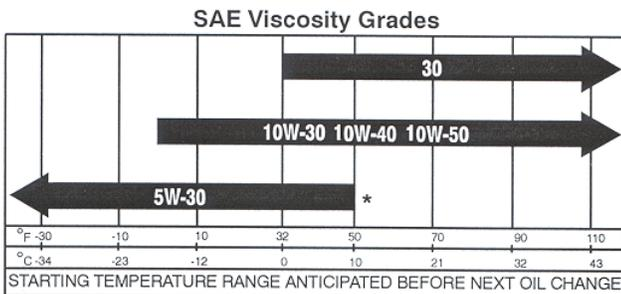

Figure 13
3. The engine uses any high-quality 10W30 detergent oil having the American Petroleum Institute -API- "service classification" CF or higher. Choose a viscosity according to the table in figure 13.